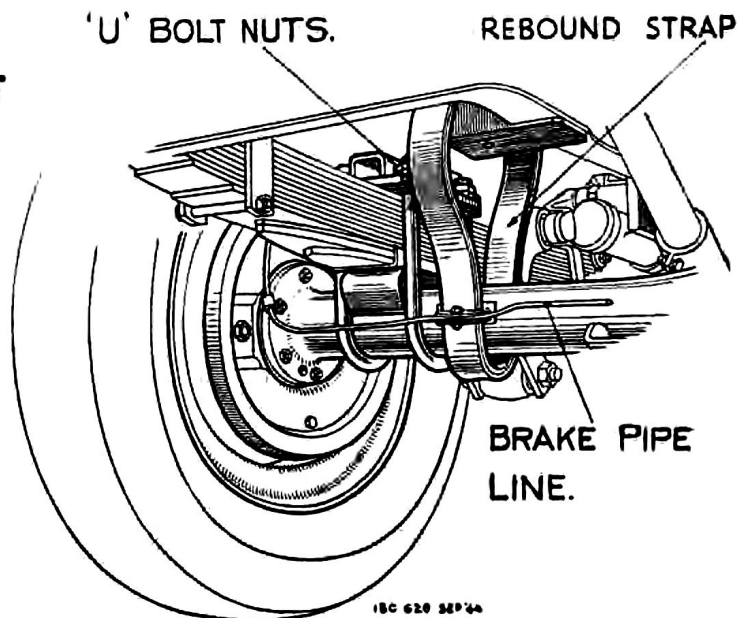

FIG. 22.—REAR AXLE, SHOWING REBOUND STRAP.
1. "U" bolts securing springs to axle casing—these should be "dead" tight. (Fig. 22.)